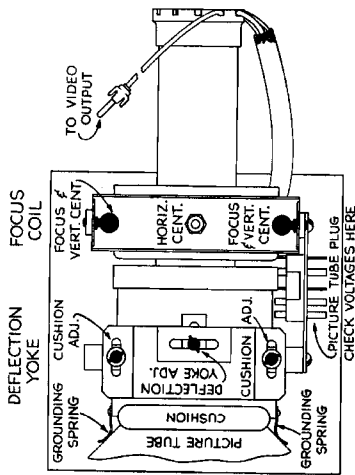

FIG. 8 - PICTURE TUBE YOKE
- (d) Turn the Horizontal Phase adjustment ("Q" Fig. 8) until the blanking bar which may appear in the picture moves to the right and off the raster.
- (g) Turn Frequency adjustment (P) until picture falls out of sync.